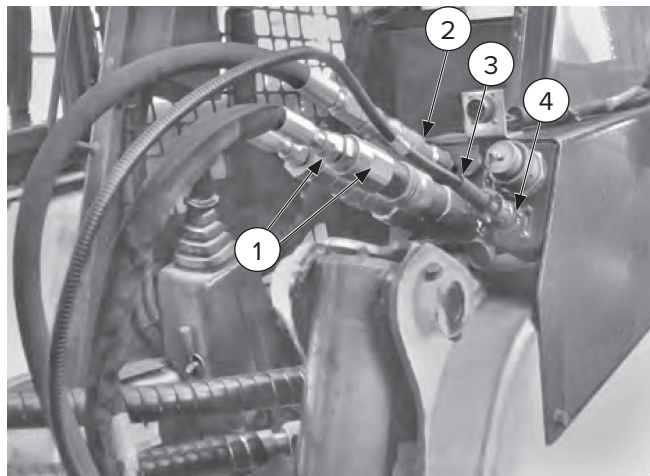

Figure 4
2. Connect the case drain [Figure 4, Item 2] first, and then connect the supply and return lines [Item 1]. (See "4.5 Connecting Flat-Faced Quick Couplings" on page 16.)